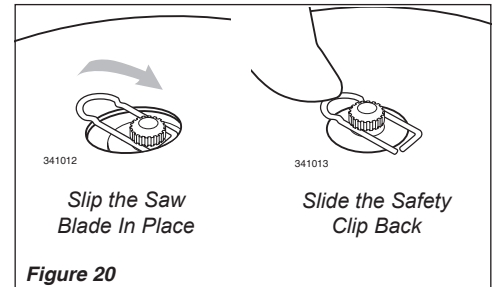

Figure 20
3. Fit the blade over the safety clip and then center it over the flange on Holder A. See Figure 20.